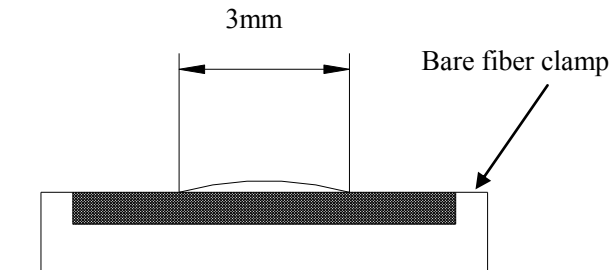

Figure H-3
- Referring to FigureH-3, turn the blade height adjustment screw so that the length of exposed blade